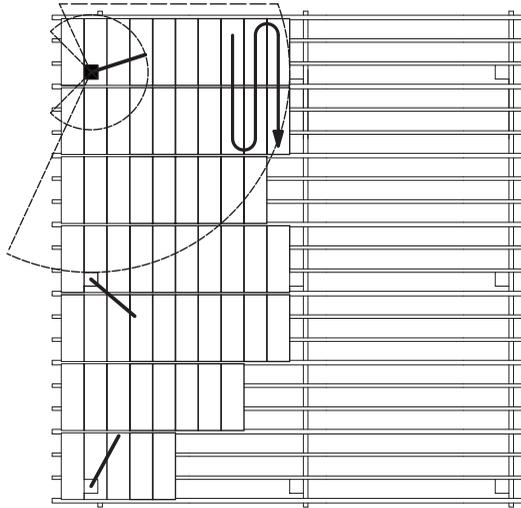

Figure 34. *Decking process after changing anchor point.*
4. Connect to an adjacent SkyReach Anchor and proceed by decking the areas reachable from that anchor, please see Figure 34. Repeat the procedure by changing to anchors placed in the remaining columns needed to cover the whole deck.